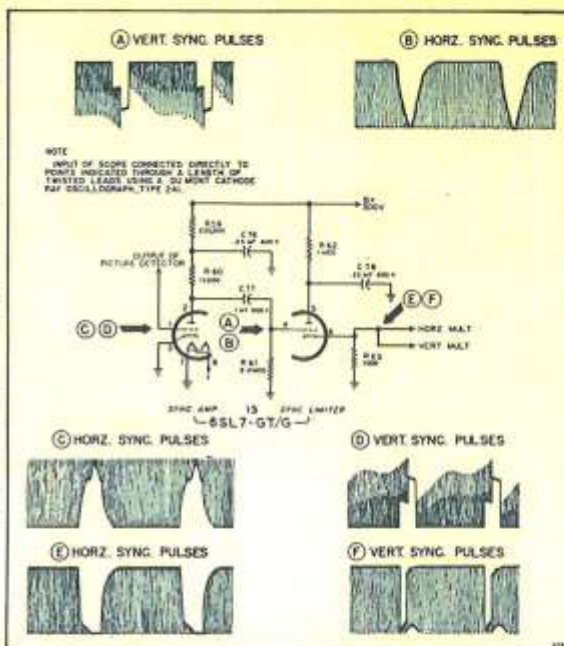

Figure 13. Sync Amplifier and Limiter
The sync amplifier and sync limiter (see figure 13) share a type 6SL7 tube (13). The first section amplifies the sync signal obtained from the sync separator diode of the picture detector. The second section acts as a limiting cathode follower which clips off the noise peaks and supplies constant sync voltage to the multivibrators.